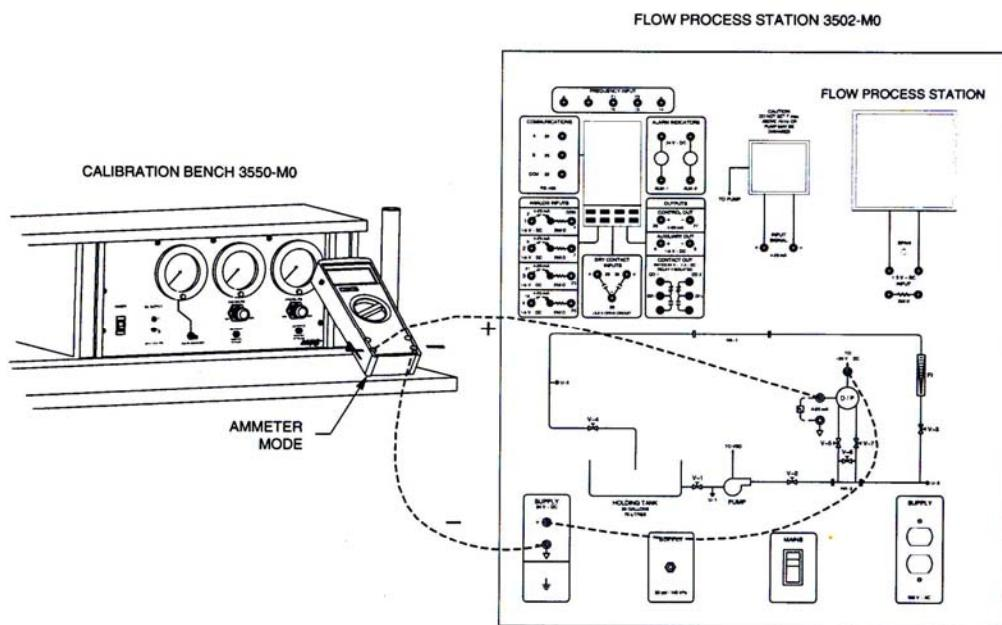

Figure 3-2. Flow Loop.
- 18. Connect the Differential Pressure Transmitter to the Calibration Bench as shown in Figure 3-2.